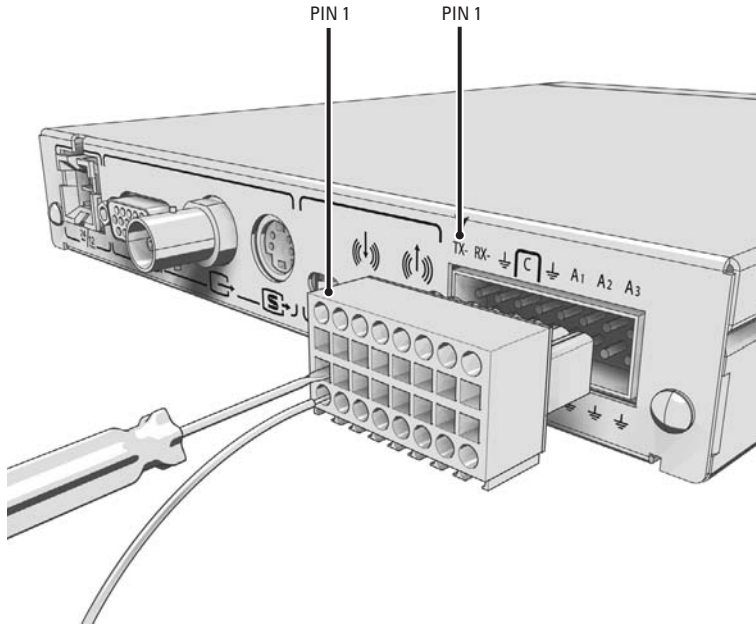

Figure 12. Wiring the CM9700MDD-EVS Terminal Block
Figure 12 shows how to wire the terminal block and connect it to the CM9700MDD-EVS. Note that the terminal block can be attached to the CM9700MDD-EVS only in the proper position, as shown in Figure 12.
2. Connect the cable's individual wires to the terminal block on the rear panel of the CM9700MDD-EVS. An arrow on the rear panel identifies pin 1; on the terminal block, pin 1 is the leftmost lead on the top row and pin 9 is the leftmost lead on the bottom row (refer to Figure 12). Use a small screwdriver to open the clamp for a particular lead.